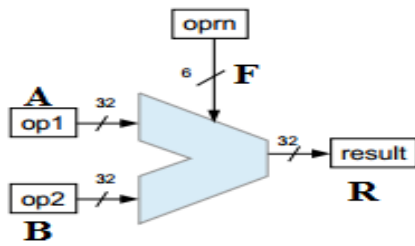

Figure 3.1 ALU Interference Diagram
- Treat the ALU as a module and note which are the inputs and output ports of ALU. As shown in figure 3.1, ALU modules has three input ports named as A,B and F and one output port R.